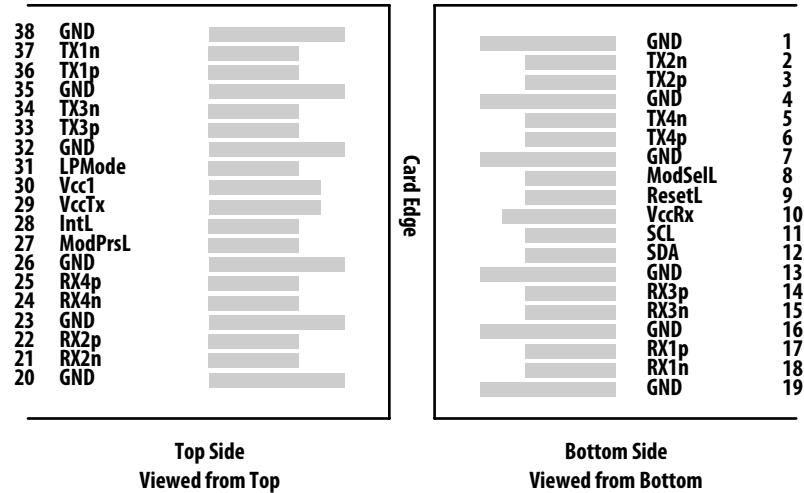

Figure 6. Pad Layout
* See Figure 6 for Test Point definitions.